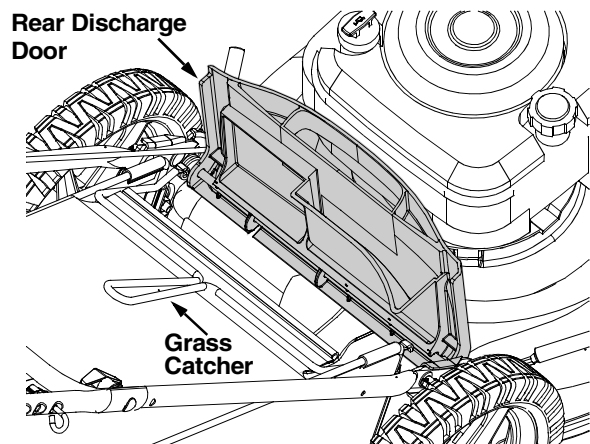

Figure 8
- Lift the rear discharge door and place the grass catcher on the pivot rod. Let go of discharge door so that it rests on the grass catcher. See Figure 8.
- **To remove the grass catcher:** Lift the rear discharge door on the mower as shown in Figure 8. Lift the grass catcher up, out of the slots in the handle bracket assemblies. Release the rear discharge door.